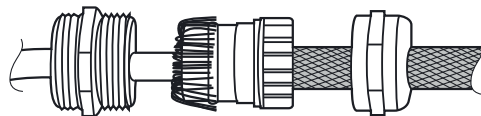

Figure 16: Signal lines connections (shielded)
- Attach the shielding according to the Figure see figure 16, page 49